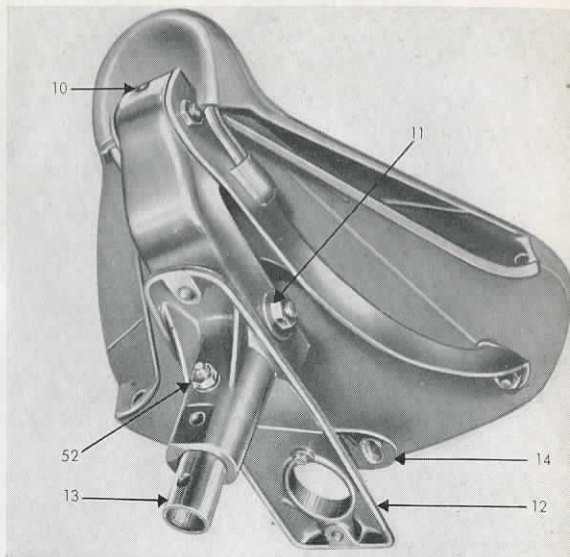

Fig. 3
- f) The **Saddle** (Fig. 3) is adjustable. It can be adjusted to both the size and the weight of the rider.